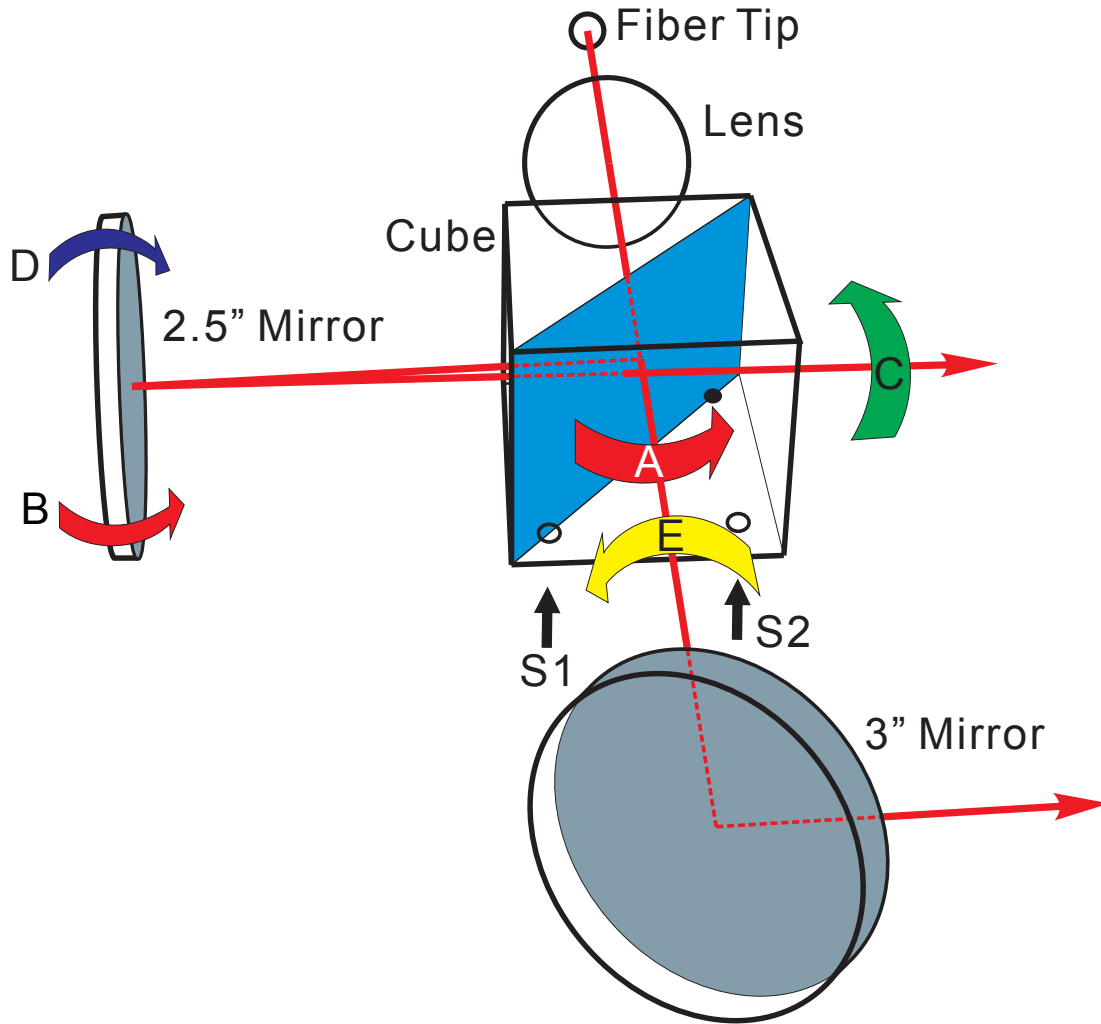

FIG. 3. Changes of laser output and reflections by rotating cube and 2.5" mirror.
- Rotate the cube, as adjustment **A** shown in Fig. 3, until the reflections from the surfaces of the cube are close to the center of the tip and slightly shifted horizontally to either left or right sides.
- Once the horizontal positions of the output and reflections satisfy the requirements, The cube should be fixed in this degree of freedom, and all the work afterward is left to the two screws underneath the cube, s1 and s2, as shown in Fig. 3.